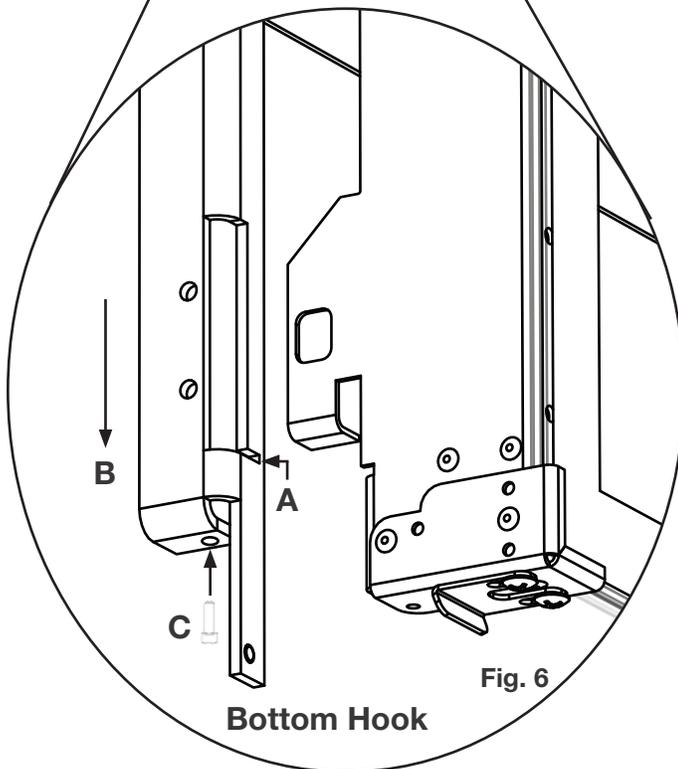

**Fig. 4**
4. For ease of fitting, the latch securing screws should be located at the bottom of their slots. it may be necessary to loosen the latch securing screws and slide them all the way down. Retighten the latch securing screws loosely taking care not to overtighten (**Fig. 4**). Repeat for other end of GGA-1.